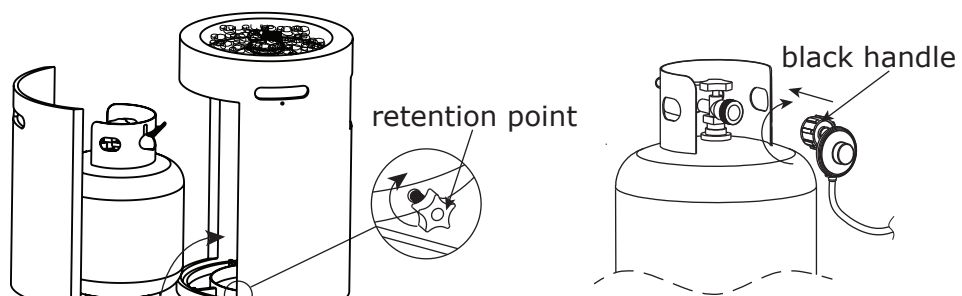

Figure 3
3. Place the gas cylinder into the gas cylinder support and connect the regulator by turning the black handle clockwise to tighten. The hose must not turn upside. To remove the regulator, turn the black handle counter-clock wise. Secure the gas cylinder by tightening clockwise the retention point found on gas cylinder support (see Figure 3), so that the gas cylinder cannot move from side to side or fall down. The knob on the control panel is turned all the way to the "OFF" position when the fire pit in NOT in use.